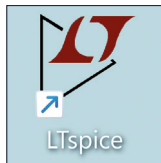

Figure 2.2 LTspice icon
- Double-click on the file to install LTspice. After the installation, the icon shown in Figure 2.2 should appear on your desktop,